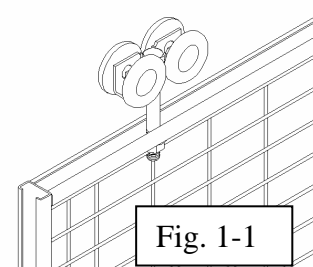

Fig. 1-1
- Assemble Door #1 and Trolley Assembly. See Figure 1-1 for reference.
- Assemble Door #2 and Trolley Assembly. See Figure 1-1 for reference.